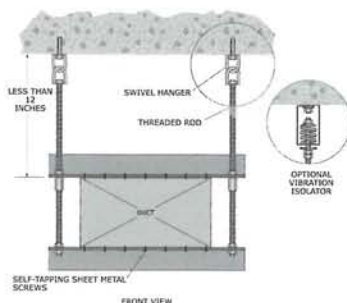
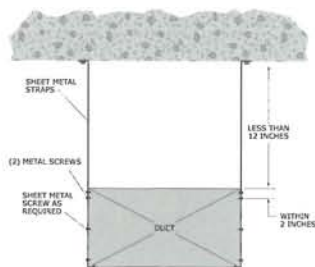
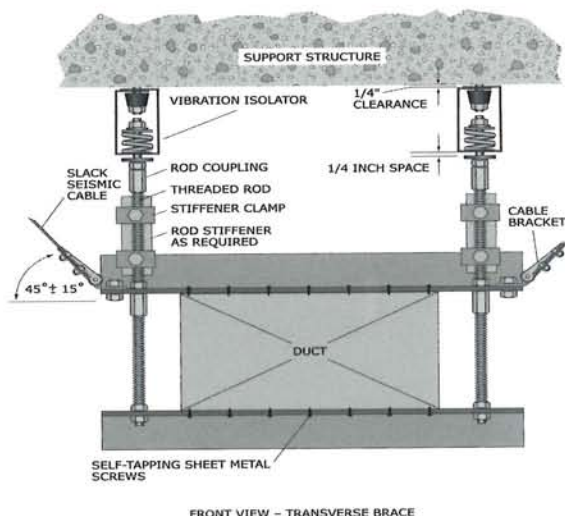

Figure 34: Rectangular duct non-moment-resistant rod support.
Figure 35: Rectangular duct strap support.
Figure 36: Rectangular duct isolated with vertical rods and braced with cables (transverse).
- Vibration-isolated support (see the optional view in Figure 34 on page 25)
Lay out all attachment points before anchoring. Attach as shown in Figure 34 (above) and Figure 35 (above).
Connect straps to duct as shown in Figure 35 (above) or assemble duct rod support as shown in Figure 36 (page 26).
Assemble angle bracing and connect to vertical rods as shown in Figure 36 (above).